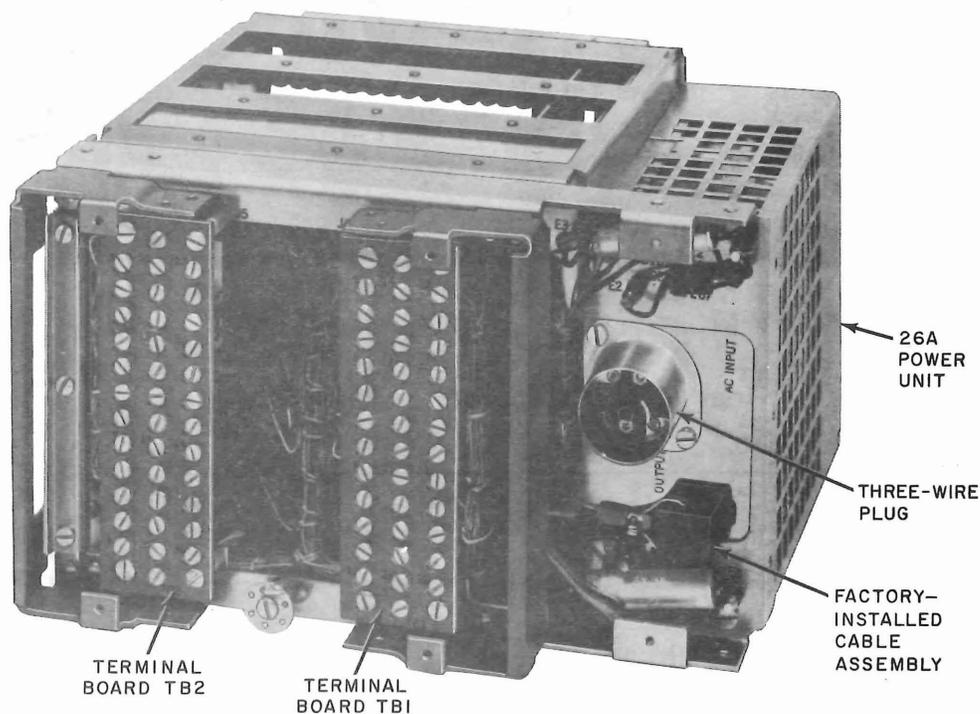

Fig. 2—Data Auxiliary Set 824B2—Rear View (Covers Removed)
2.06 DAS 824B2 (Fig. 2) must be internally modified to provide for option Q strapping, as follows: